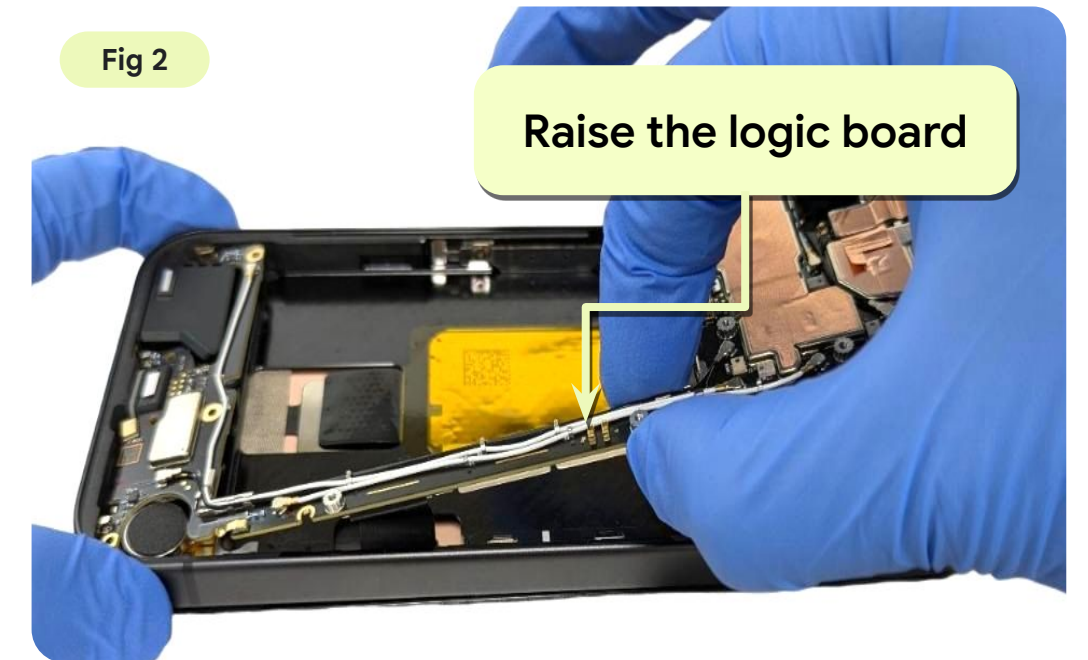

Fig 2
- Raise the logic board as shown in Fig 2.